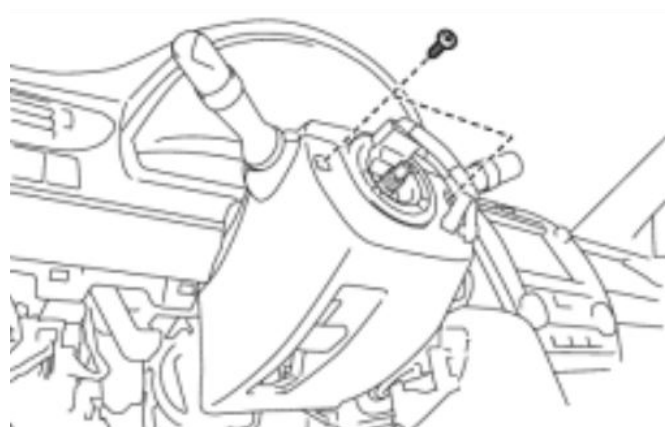

Fig. 3b
1. Remove the (2) philips screws securing the steering column cover. Then disengage the claws and remove the lower half of the steering column cover. (Fig. 3b)